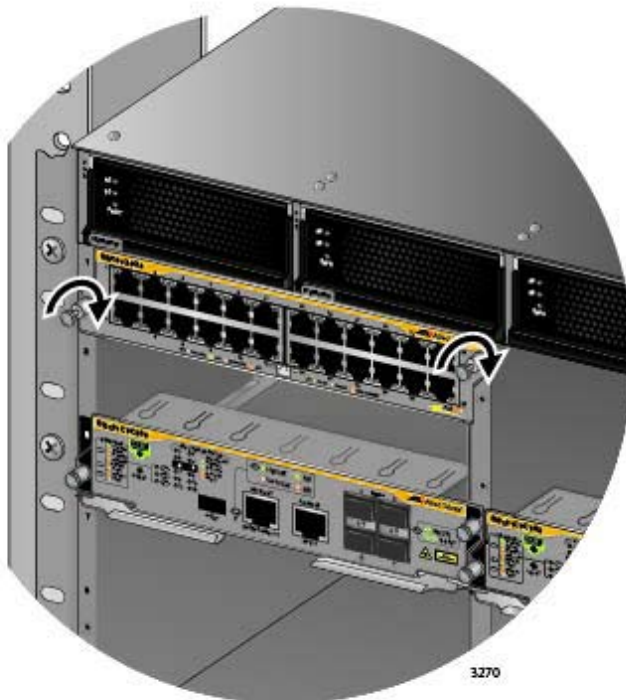

Figure 72. Tightening the Thumb Screws on an Ethernet Line Card
7. Finger tighten the two thumbscrews on the sides of the line card to secure it to the chassis, as shown in Figure 72.